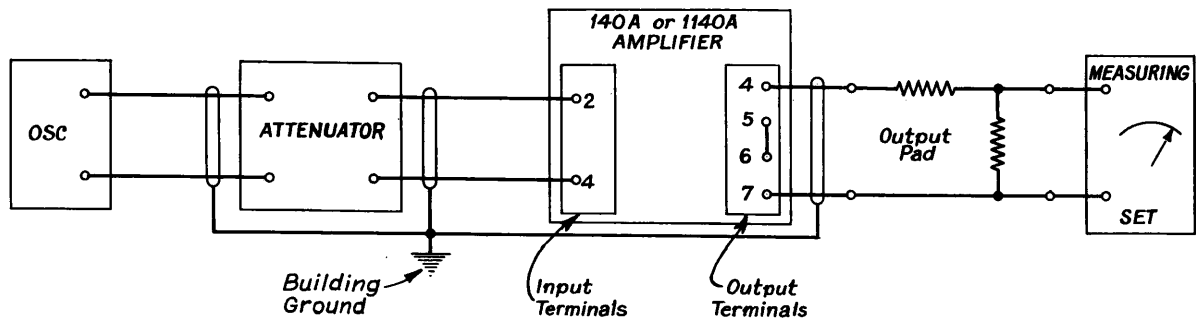

Fig. 2 — 140A Amplifier — Gain and Gain-Frequency Testing Arrangement
2.11 Set up the testing arrangements indicated in Fig. 2. The 5A Attenuator should be adjusted for 30 db or more loss. The amplifier gain control should be turned fully clockwise. The gain of the amplifier is indicated by the algebraic sum of the attenuator loss, output pad loss and the dial and meter readings on the measuring set.